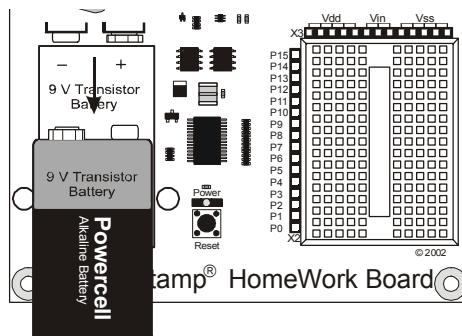

Figure 1-51
- ✓ If you are using the BASIC Stamp HomeWork Board, disconnect the battery as shown in Figure 1-51.